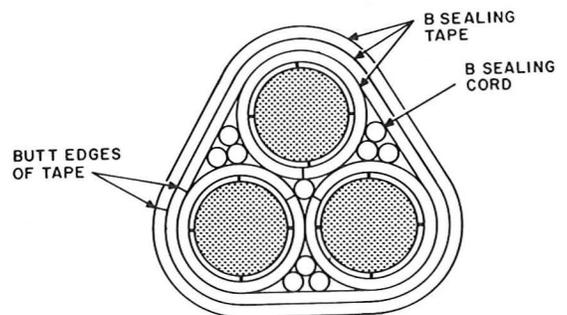

Fig. 13—Three-Stub Cable Arrangement for 20C1 or 21C1 Splice Case
6.06 The "C" Series of splice cases is intended for use with feeder cables having diameters between 1.7 and 2.2 inches. These cases will accommodate a maximum of three stub cables in each cable opening. The stub cables should be arranged as shown in Fig. 13. One complete layer of B Sealing Tape should be wrapped around each stub cable. The interstices should be filled with